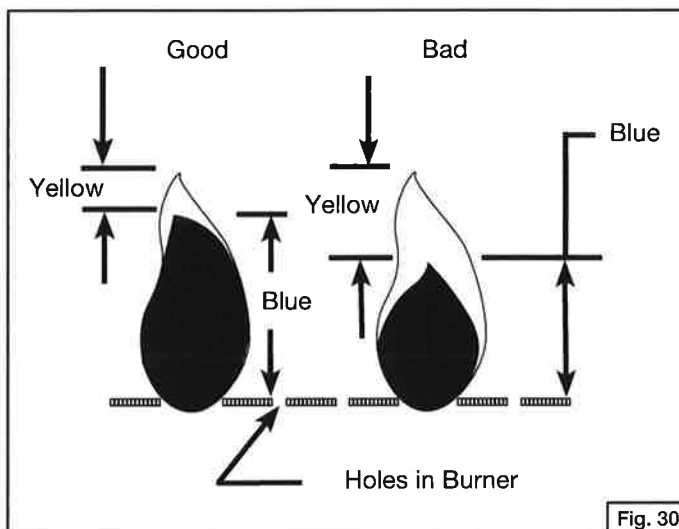

Fig. 30
- Flames should appear similar to the good flame shown in Fig. 30 and as follows: